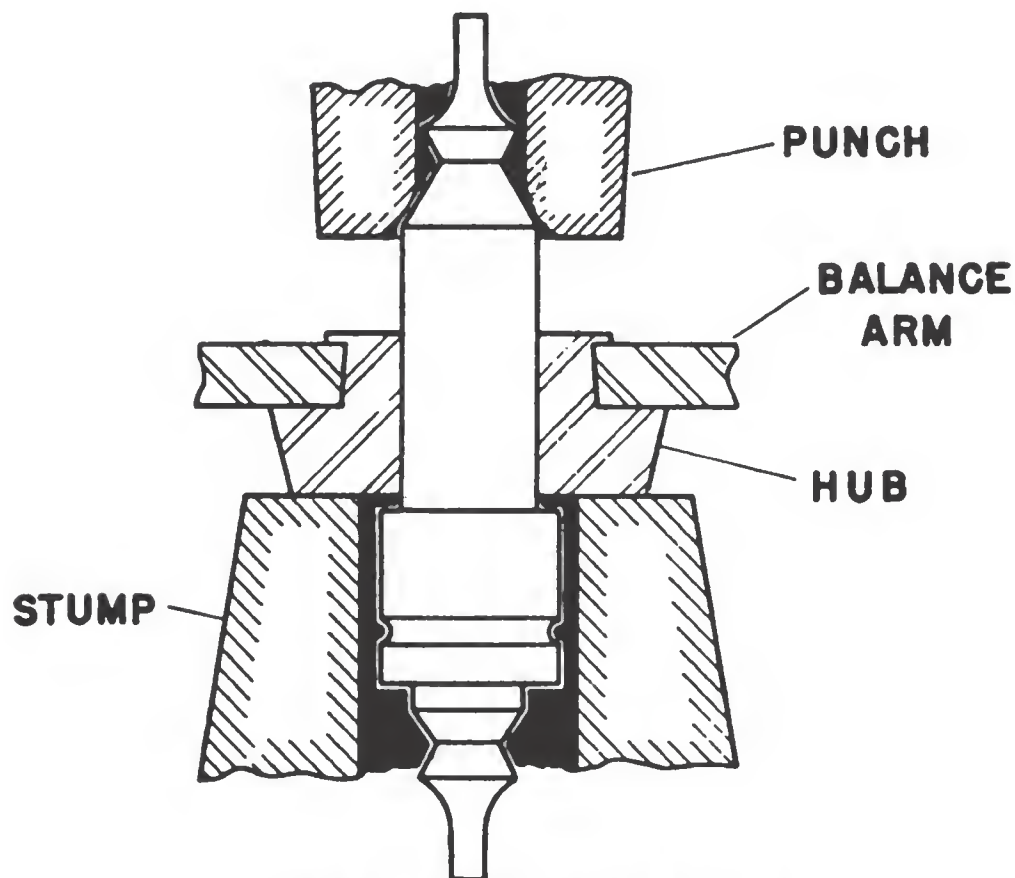

Figure 81. — Removing a friction-fitted staff.
2. *Driving off with staking tool.* — The staff-removal procedure is simpler for a *friction-fitted staff*. The lathe operation is not then required. The staff and arm are placed on a staking stump having a hole slightly larger than the roller shoulder, and a punch with hole large enough to bear on the chamfered portion of the staff (see figure 81) is used to drive the staff off the hub by tapping on it with a pair of tweezers. This is the method used to remove the friction-fitted staffs of Hamilton Comparing Watches.